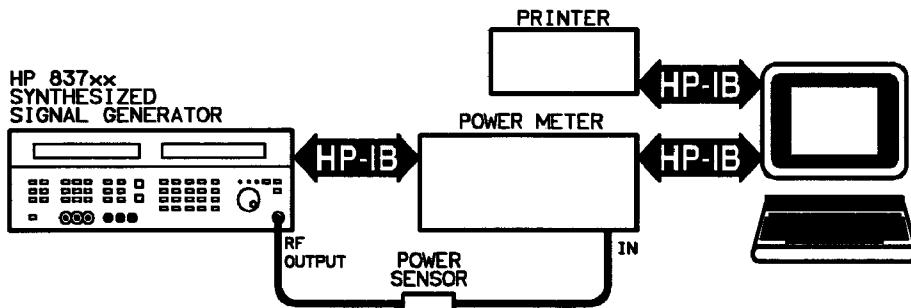

Figure 7-2. 1—20 GHz Vernier Calibration Equipment Setup
2. Set up the equipment as shown in Figure 7-2.